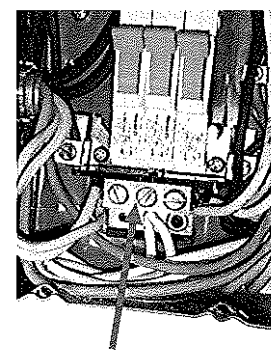

Fig 3: Neutral Terminal Strip
3. One of the shoreline inputs supplies the 110V HTR breaker and the 110V OUTLETS breaker, while the other shoreline input supplies the BATTERY CHARGER breaker. Find the input wires that supply the BATTERY CHARGER breaker by first finding the black wire attached to the BATTERY CHARGER breaker, then trace back on the black wire and find the green and white wires that are part of the same harness. Follow the white wire back from this point and disconnect it from the neutral terminal strip (Fig 3). This wire is referenced as the **supply white wire** in step 4.